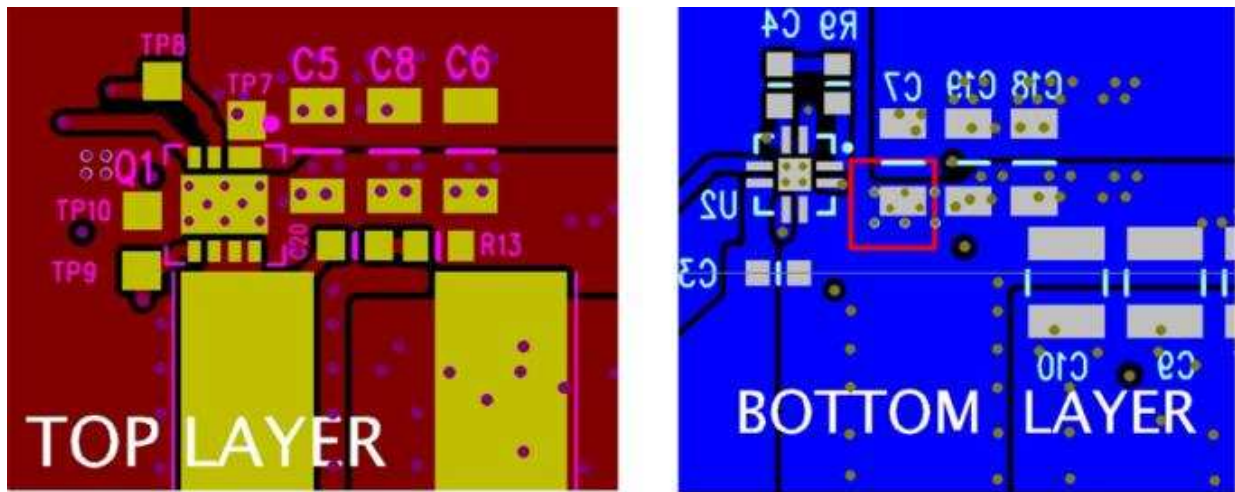

Figure 33. Recommended PCB Layout (Top Down)
- The placement of the input capacitors relative to the power block's VIN and PGND pins should have the highest priority during the component placement routine. It is critical to minimize these node lengths. As such, ceramic input capacitors need to be placed as close as possible to the VIN and PGND pins (see Figure 33). The example in Figure 33 uses 6 × 10-μF ceramic capacitors (TDK Part # C3216X5R1C106KT or equivalent). Notice there are ceramic capacitors on both sides of the board with an appropriate amount of vias interconnecting both layers. In terms of priority of placement next to the power block, C5, C7, C19, and C8 should follow in order.
- The switching node of the output inductor should be placed relatively close to the power block VSW pins. Minimizing the node length between these two components will reduce the PCB conduction losses and actually reduce the switching noise level. In the event the switch node waveform exhibits ringing that reaches undesirable levels, the use of a boost resistor or RC snubber can be an effective way to easily reduce the peak ring level. The recommended boost resistor value will range between 1 Ω to 4.7 Ω depending on the output characteristics of driver IC used in conjunction with the power block. The RC snubber values can range from 0.5 Ω to 2.2 Ω for the R and 330 pF to 2200 pF for the C. Please refer to Snubber Circuits: Theory, Design and Application (SLUP100) for more details on how to properly tune the RC snubber values. The RC snubber should be placed as close as possible to the Vsw node and PGND (see Figure 33).(1)
- (1) Keong W. Kam, David Pommerenke, "EMI Analysis Methods for Synchronous Buck Converter EMI Root Cause Analysis", University of Missouri – Rolla
- Use the smallest drill size allowed in your design. The example in Figure 33 uses vias with a 10-mil drill hole and a 16-mil capture pad.